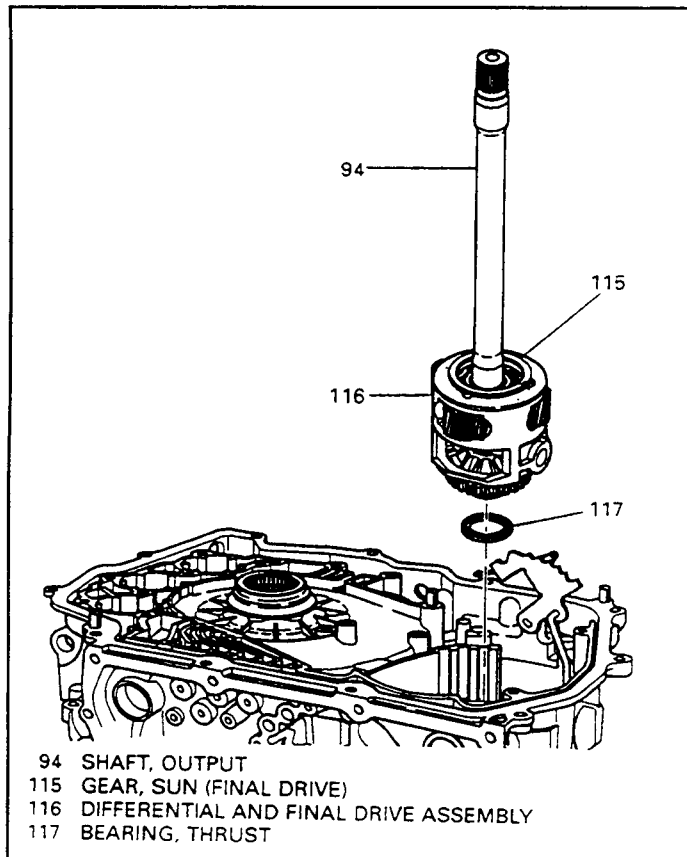

Figure 79
79. Lift straight up on the output shaft and remove final drive assembly and final drive sun gear as one assembly (See Figure 79).